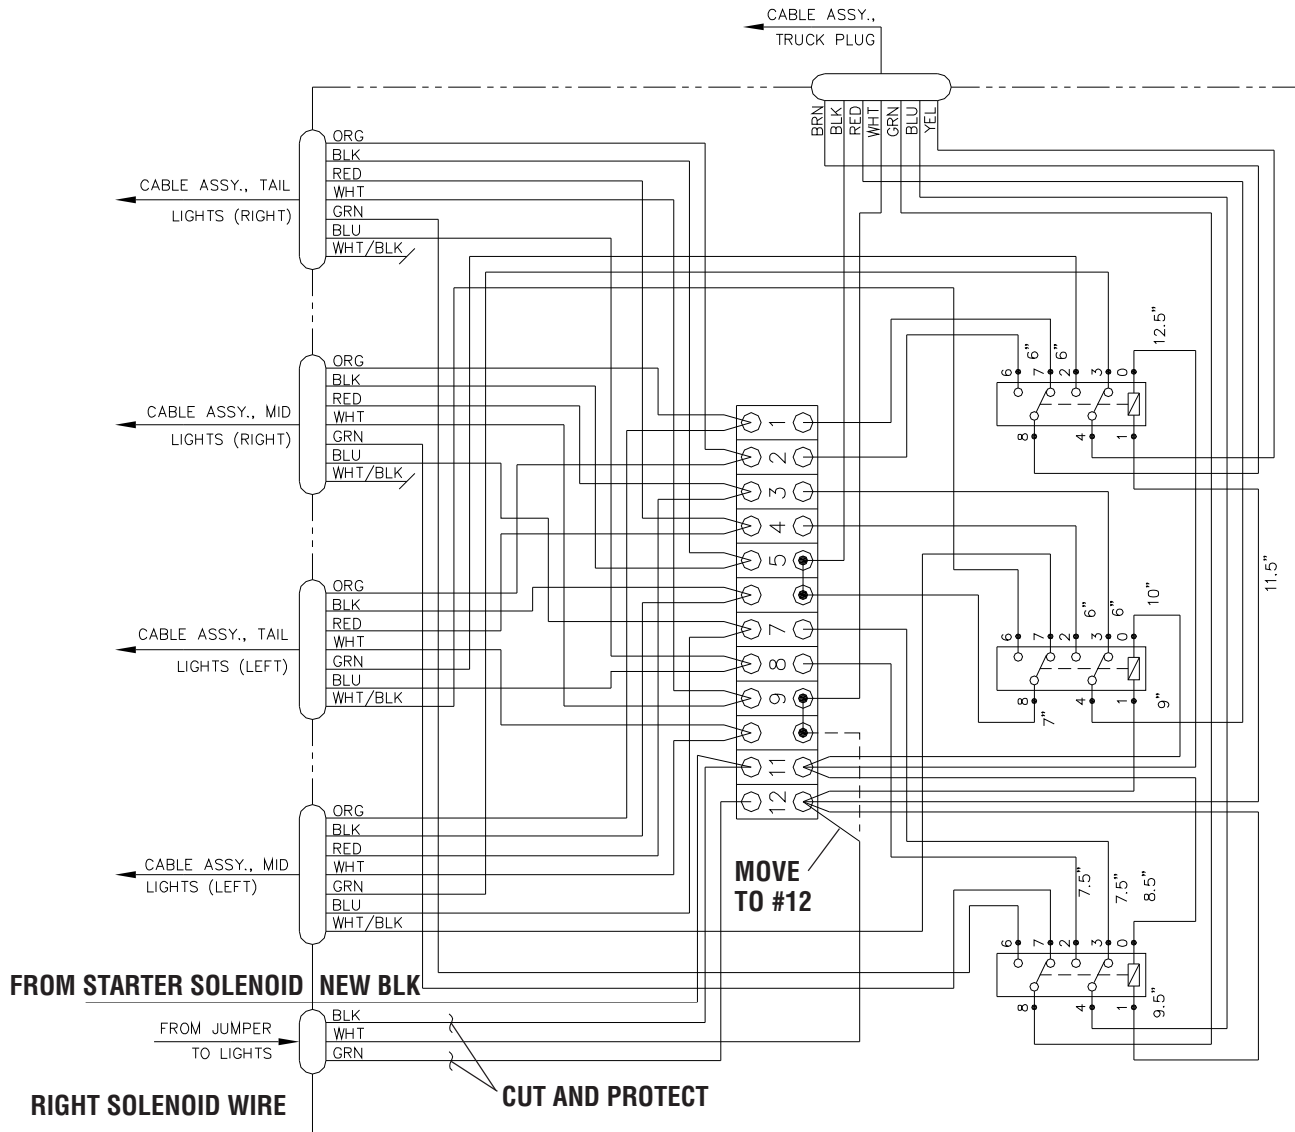

Figure 5
Step 12 - Re-connect the left solenoid as shown in Figure 5.